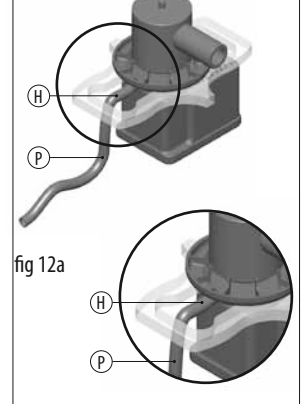

fig 13
- Fig.13 Insert the grid (U) in the slot at the bottom of the skimmer body.